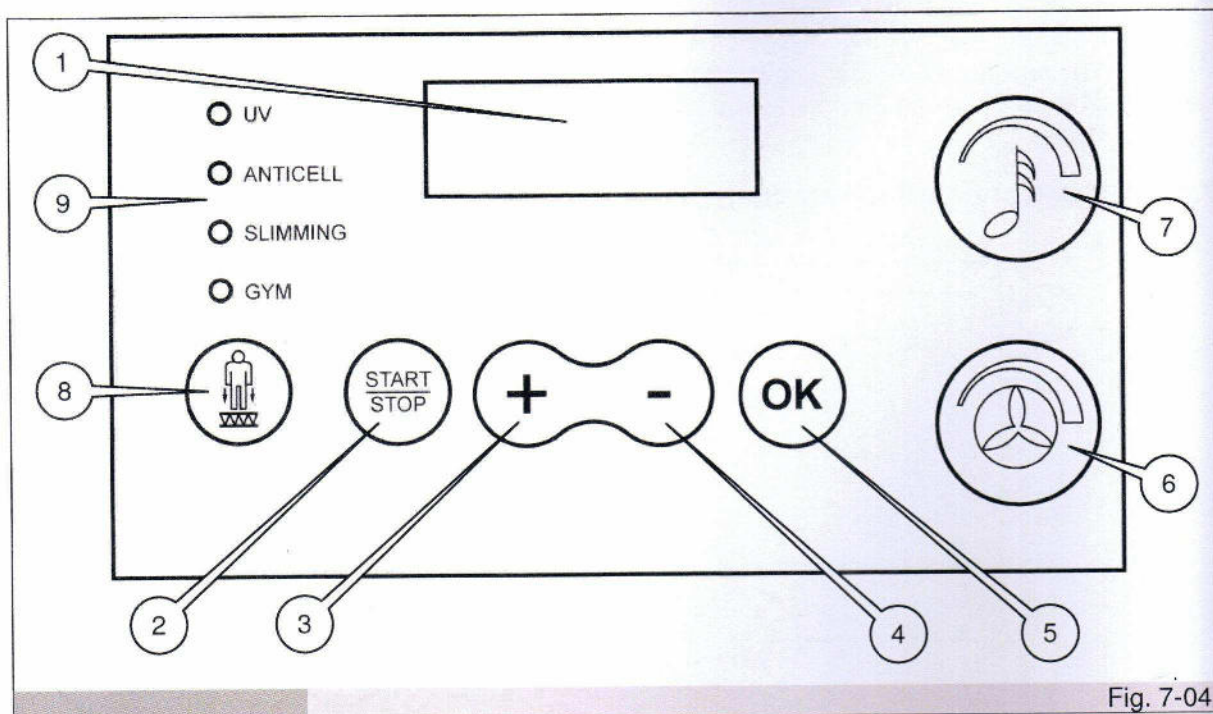

Fig. 7-04
1. Screen (ref. 1 fig. 7-04).
2. Session START/STOP button (ref. 2 fig. 7-04).
3. Time increase button (ref. 3 fig. 7-04).
4. Time decrease button (ref. 4 fig. 7-04).
5. Section confirmation button (ref. 5 fig. 7-04).
6. Cabin ventilation control (ref. 6 fig. 7-04).
7. Volume control (ref. 7 fig. 7-04) (optional).
8. Vibrating panel button (ref. 8 fig. 7-04).
Button for using the vibrating panel; repeated pressing of the button allows you to select the required treatment; the relative light switches on to confirm a selection (ref. 9 fig. 7-04).